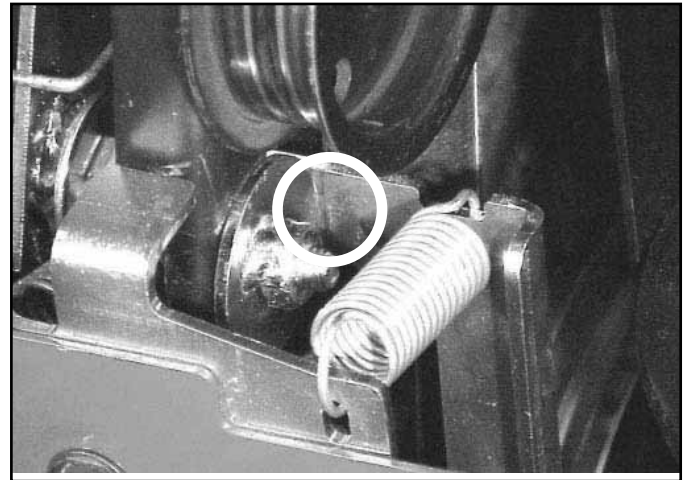

Fig 043
3. Remove the right side belt cover. Adjust the turnbuckle until there is a 1/16" (1.5mm) gap between the stop and the auger clutch assembly. Secure the jam nut on the turnbuckle (Fig. 043).